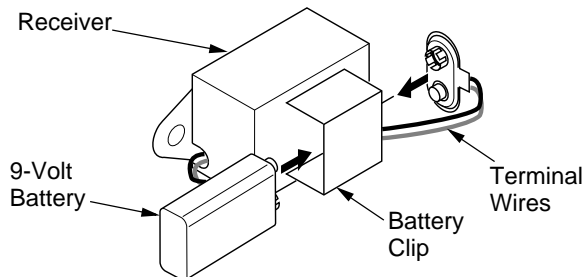

Figure 45 - Installing Battery in Receiver
4. Install battery into receiver battery clip and connect to terminals (see Figure 45).